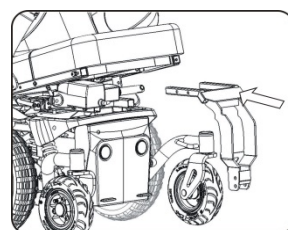

Figure 6-22
6.7.3.5 Install the fixing plate and the actuator back the powered wheelchair.(Figure 6-21, Figure 6-22)